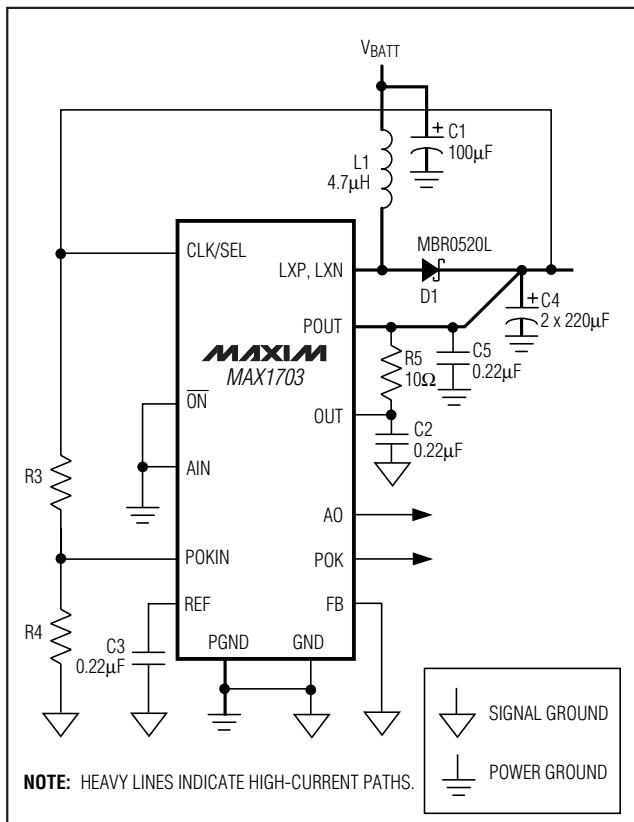

Figure 2. MAX1703 in High-Power PWM Mode
- Note 3:** Start-up is tested with the circuit of Figure 2.
The MAX1703 is optimized for use in cellular phones and other applications requiring low noise during full-power operation, as well as low quiescent current for maximum battery life in low-power mode and shutdown. It features constant-frequency (300kHz), low-noise PWM operation with up to 1.5A output capability. See Table 1 for typical outputs. A low-quiescent-current, low-power mode offers an output up to 150mA and reduces quiescent power consumption to 300µW. In shutdown mode, the quiescent current is further reduced to just 1µA. Figure 2 shows the standard application circuit for the MAX1703.
Set the output voltage between 2.5V and 5.5V by connecting a resistor voltage-divider to FB from OUT to GND, as shown in Figure 2. The resistor values are then as follows: